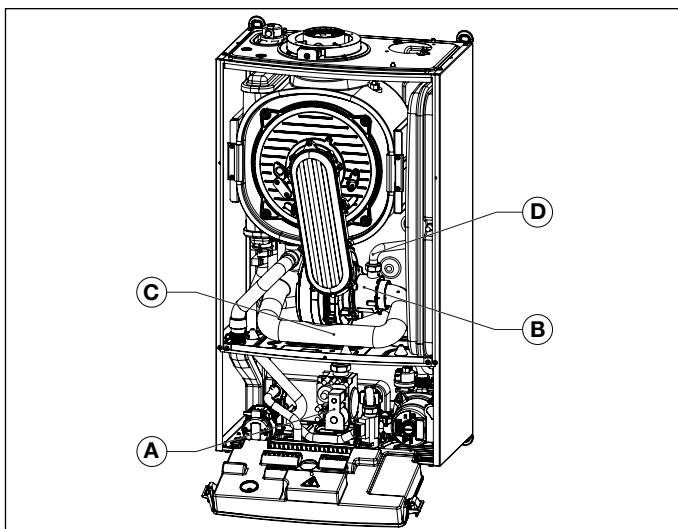

Fig. 30 Intake pipe
- Loosen the screw securing intake pipe to mixer, and remove pipe (see Fig. 30 Intake pipe).
- Disconnect the gas pipe from the mixer (see Fig. 30 Intake pipe).